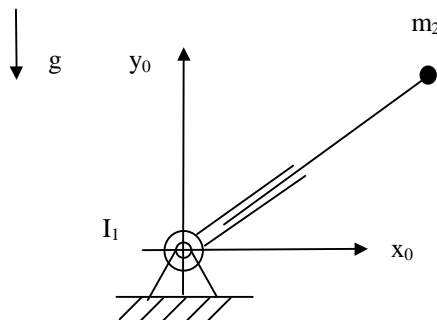

Figure 4
Q.3 Assume that the two degree-of-freedom robot shown in Figure 4 is in the vertical plane under the influence of gravity. For this robot, let  $I_1$  be the moment of inertia of the first link, and  $m_2$  be the lumped equivalent mass of the second link, which is located at the place as indicated in the figure.